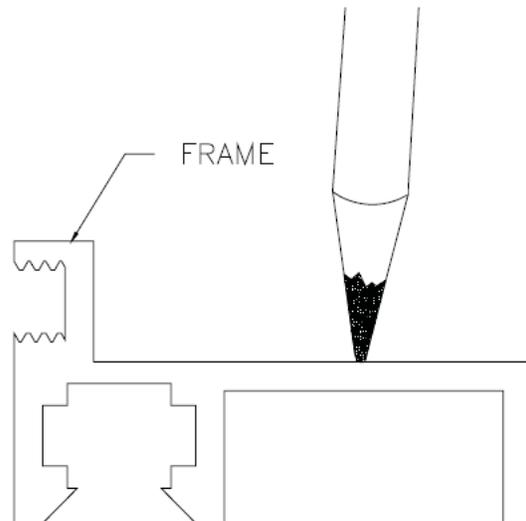

Figure 6
STEP 9. If the anchor holes have not been predrilled into the frame at the factory, mark the locations for the anchor holes on the frame (see Figure 6). Standard anchor spacing is 20" o.c. with an anchor at a nominal 3" from each end of each frame section.